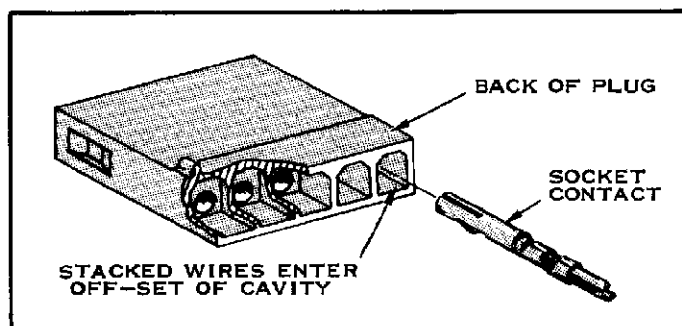

FIG. 2
- For two-wire leads, first align the Contact with the cavity as shown in Figure 2. Then, push the Contact into the Housing as far as it will go. Pull back lightly on the wire to make sure the Contact is latched in place.